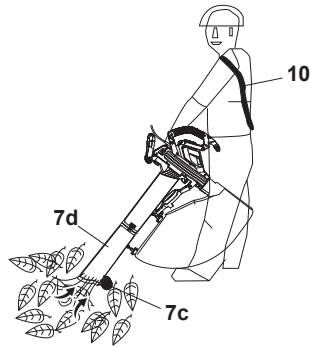

Fig. 12
1. Always hold the product by the main handle (1) and the front handle (3).
2. Attach the harness (10) to the hanging hole (1a) and hang it on the shoulder.
3. Push the product in front of you. Use the guide rollers (7c) to guide the round nozzle (7d) along the ground more easily (Fig. 12).